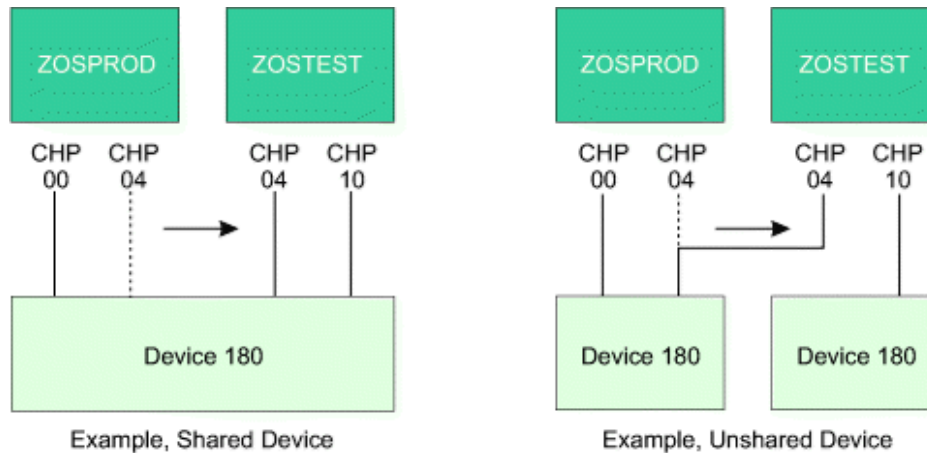

Figure 19. Two examples of duplicate device number conflicts
Figure 19 on page 60 provides two examples of duplicate device number conflict.
The following example shows the IOCP statement for Figure 19 on page 60. Both examples use identical IOCP statements.
In Figure 19 on page 60, ZOSTEST can access device 180 only through channel path 10 if the operator takes no action in response to the conflict message.
1. Configure offline the original channel path (CHP 10 in Figure 19 on page 60).
2. Configure offline and then online the reassigned channel path (CHP 04 in Figure 19 on page 60).
3. If necessary, configure online the original channel path (CHP 10 in Figure 19 on page 60). Another conflict message is issued because a new conflict has been created. The operator then ignores this conflict as described in option A. (Access is still allowed to any non-conflicting devices on the original channel path.)
In Figure 19 on page 60, ZOSTEST can access device 180 only through channel path 04 if the preceding steps are performed in response to the conflict message.
In Figure 19 on page 60 (shared device), ZOSTEST can access device 180 through CHP 04 and CHP 10 if CHP 04 is defined to ZOSTEST in the IOCDS.
In Figure 19 on page 60 (unshared device), ZOSTEST can access either device 180 (unshared device) if one or both of the devices are assigned a new device number in the IOCDS.
In Figure 19 on page 60, if ZOSTEST is not active when CHP 04 is reassigned, or ZOSTEST is deactivated and then activated after CHP 04 is reassigned, ZOSTEST does not activate until the conflict over device 180 is resolved.